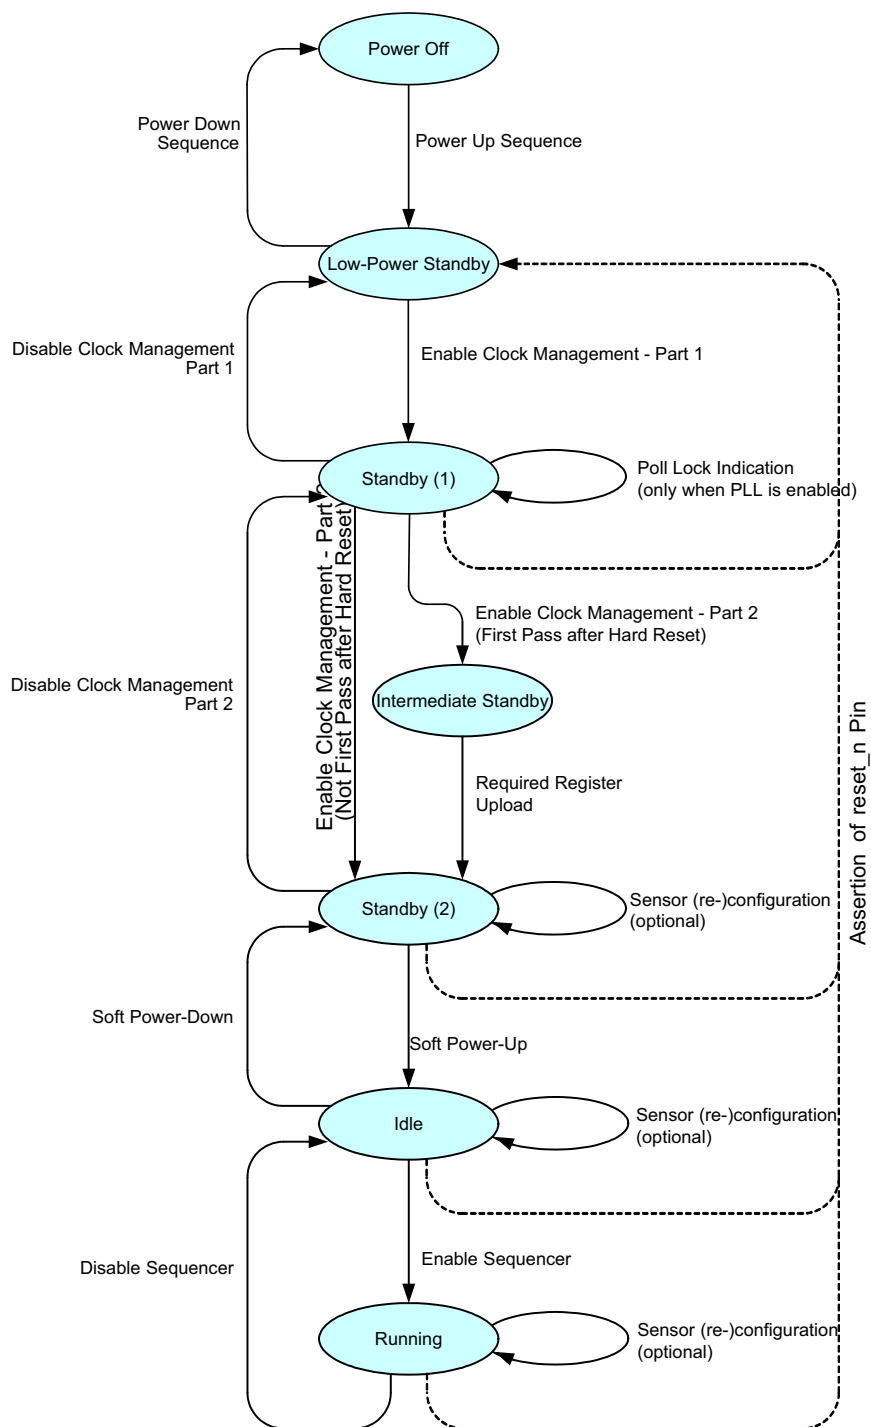

Figure 16. Sensor Operation Flowchart
Figure 16 shows the sensor operation flowchart. The sensor has six different 'states'. Every state is indicated with the oval circle. These states are Power off, Low power standby, Standby (1), Standby (2), Idle, Running.
Check the PLL_lock flag 24[0] by reading the SPI register. When the flag is set, the 'Enable Clock Management– Part 2' action can be continued. When PLL is not used, this step can be bypassed as shown in Figure 16 on page 14.